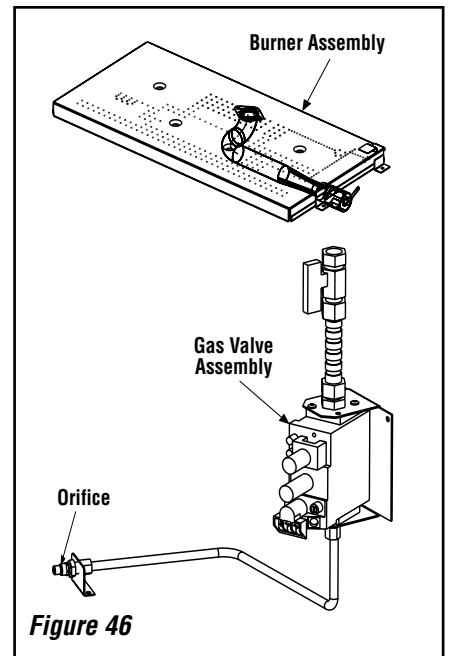
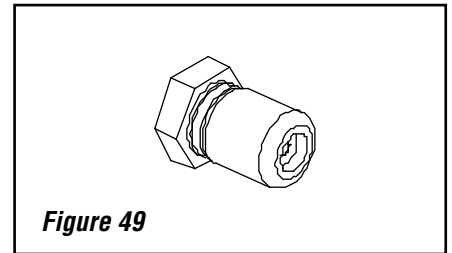

Figure 46
Figure 49
Step 4. Refer to *Figure 46*. Remove the burner assembly with attached venturi tube.
Step 7. (Refer to **Figure 46** on **Page 29** and **Figure 49**)
- A.** Remove the orifice from the manifold and replace it with the one provided in the kit. See the following table for orifice sizes for natural and propane models. **Figure 49** illustrates the orifice. Use pipe joint compound or Teflon tape on all pipe fittings before installing (ensure propane resistant compounds are used in propane applications, do not use pipe joint compounds on flare fittings).